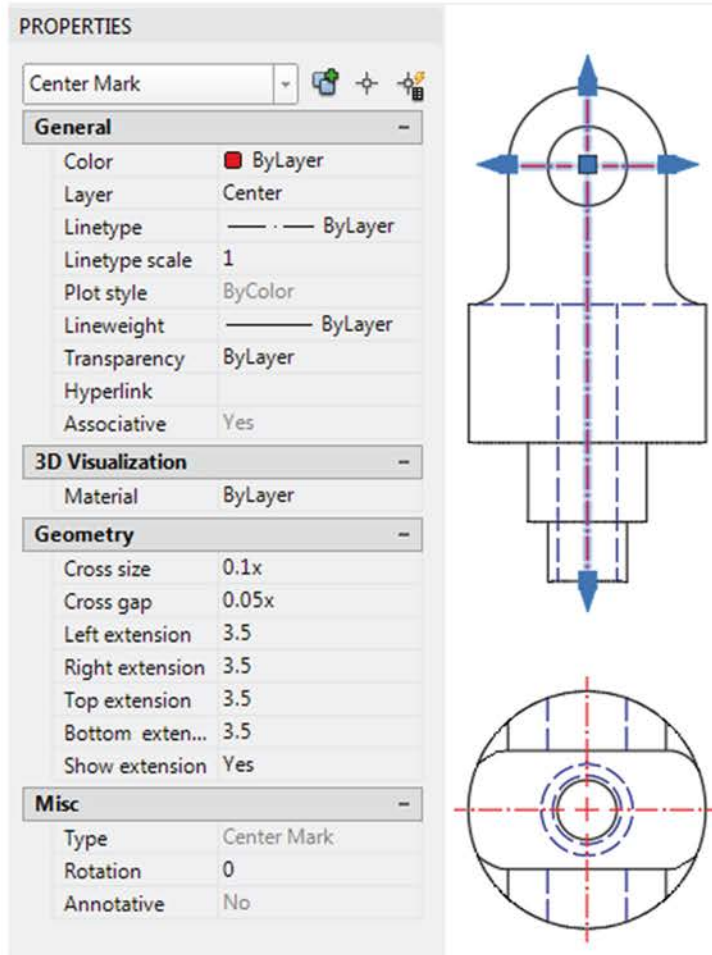

Fig. 8.9 Center Mark and the Properties palette
6. Select a **Center Mark** and open the **Properties** panel, as shown in Fig. 8.9. The properties of existing centerlines can be changed here.